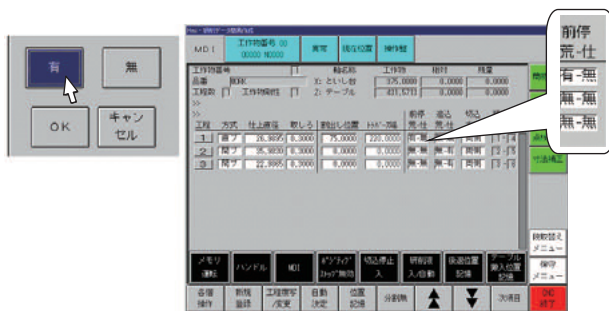

Fig. 5 Screen for programming grinding-data
- 2) The previous numerical display/numerical input style setting has been changed to a word-based display/word-based input style. This makes it possible for the operator to work without having to memorize the instruction manual or consulting any help screens (Fig. 5).